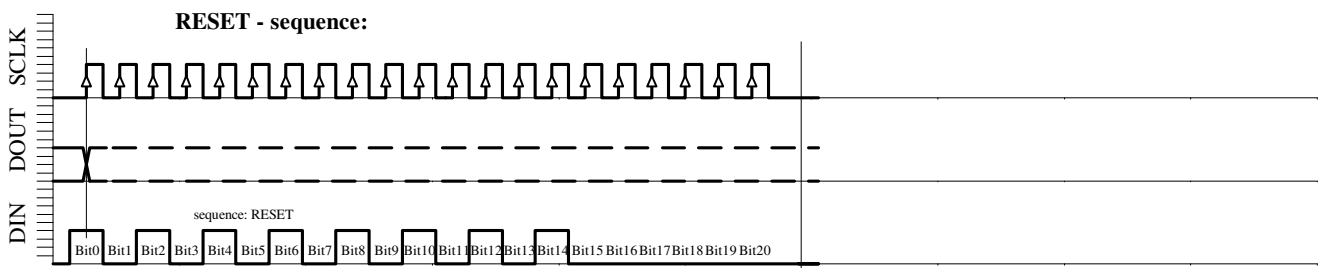

Fig. 6e: Reset sequence (21-Bit)
- RESET sequence (Figure 6e)
This sequence is 21-Bit long. The DOUT signal might change during that sequence (see Fig. 6e).